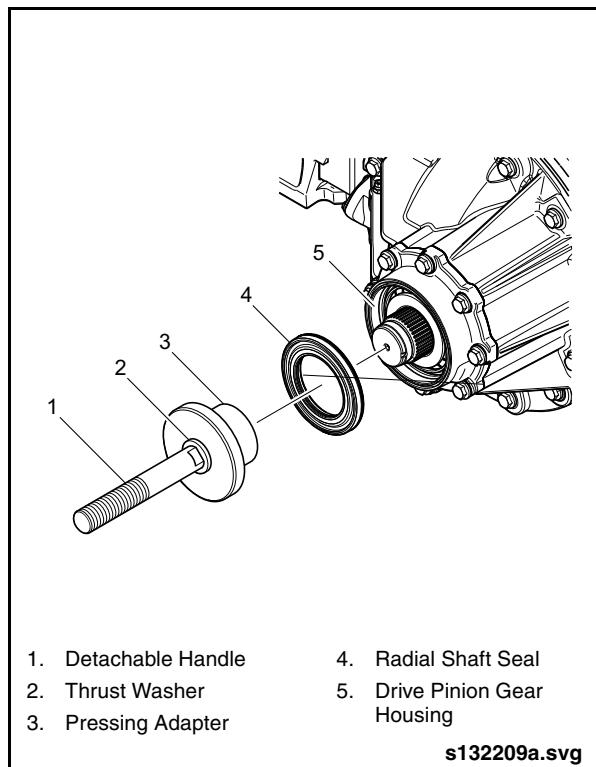

Fig. 2-37: Installing Radial Shaft Seal
2. Press the open side of the new radial shaft seal into the drive pinion gear housing as far as possible. See “Fig. 2-37: Installing Radial Shaft Seal” on page 37.